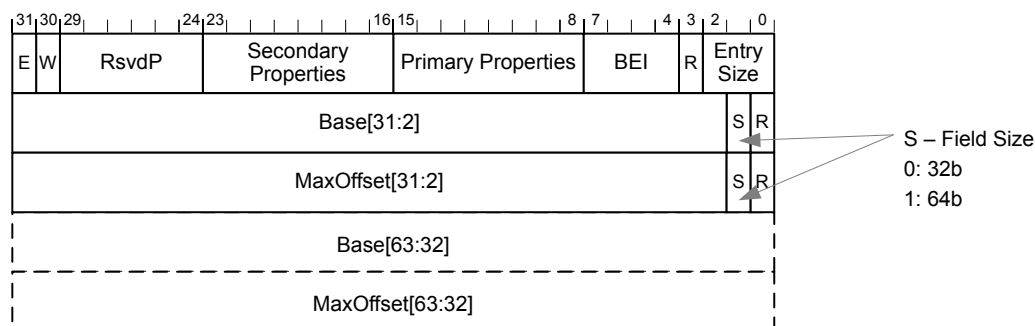

Figure 7-169 Format of Entry for Enhanced Allocation Capability
§ Figure 7-169 illustrates the format of a complete Enhanced Allocation entry for a Type 0 Function. For the Base and MaxOffset fields, bit 1 indicates if the field is a 32b (0) or 64b (1) field.